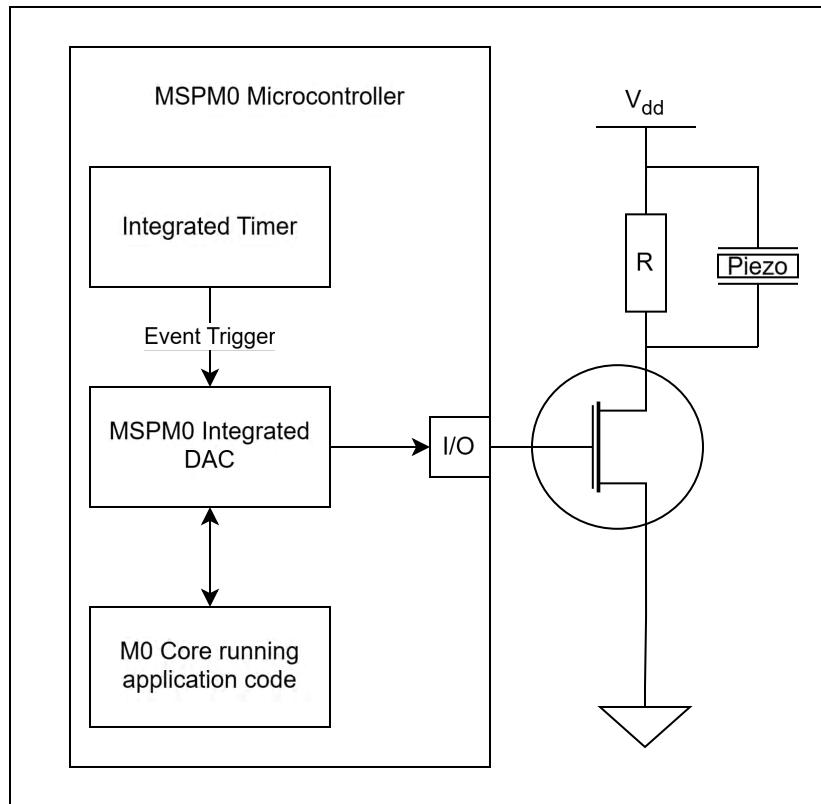

Figure 1-1. DAC to Buzzer Subsystem Block Diagram
5. In SysConfig, configure the timer as an event publisher to trigger the DAC12 module, set the DAC to operate in FIFO mode with interrupts enabled for half-empty events, and route the DAC output to the appropriate GPIO pin connected to the buzzer as displayed in Figure 1-1.